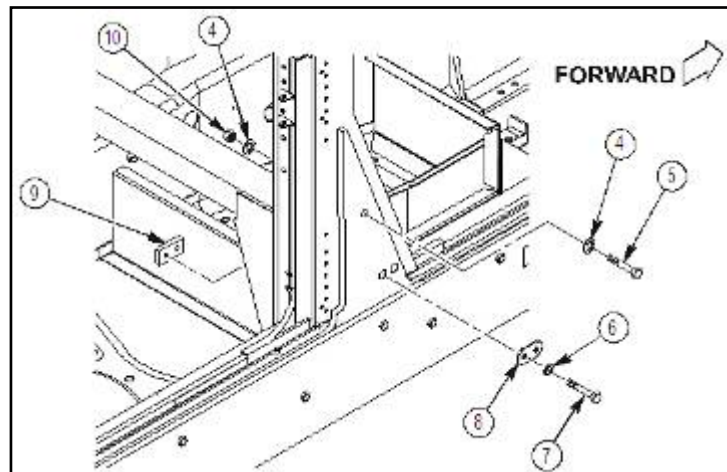

Figure 32b
8. Install one 4397000-041 capscrew (5), two 4397005-013 washers (4), and one 4397064-003 locknut (10) as shown in figure 32b. Do not tighten locknut (10) at this time.
9. Install 6435350-01M1 or 6435350-200M1 B-pillar washer plate (8) with two 4397000-041 capscrews (7), 4397004-007 lockwashers (6), and one 6435630-01M1 lower B-pillar nut plate (9) as shown in figure 32b. Do not tighten capscrews (7) at this time.